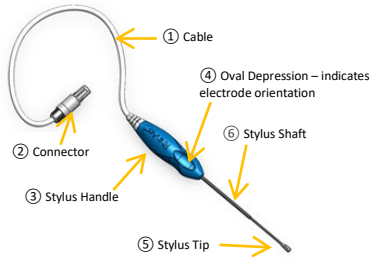
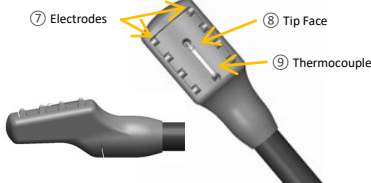

Figure 1: Stylus
Figure 2: Stylus Tip
The RhinAer® Stylus consists of a handle, shaft and treatment tip (see Figure 1). An array of bipolar electrodes is positioned on a non-conductive tip (see Figure 2) which is attached to a handle via a non-conductive shaft. A temperature sensor is located on the tip (see Figure 2) to monitor tissue temperature. The Stylus is attached to a temperature-controlled radiofrequency generator via a flexible cable.
20. Position the electrode-containing portion of the tip of the Stylus against the target tissue of the nasal airway and exert gentle pressure. The orientation of the electrodes may be verified by the Oval Depression on the Stylus handle. Refer to Figure 1.